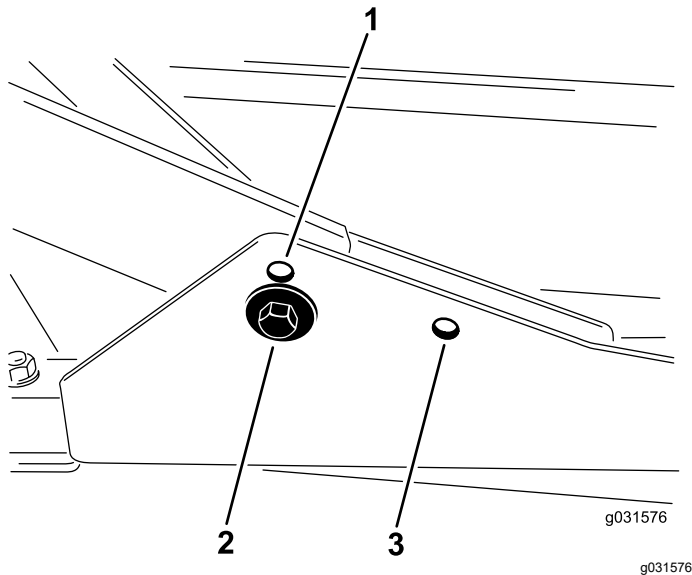

Figure 16
1. For heights of cut in the 2 to 7.6 cm (3/4 to 3 inches) range, mount the front carrier frames in the lower, front mounting holes (Figure 16).
2. For heights of cut in the 6.3 to 10 cm (2-1/2 to 4 inches) range, mount the front carrier frames in the upper, front mounting holes (Figure 16).
For all heights of cut, mount the rear cutting unit in the rear mounting holes (Figure 16).